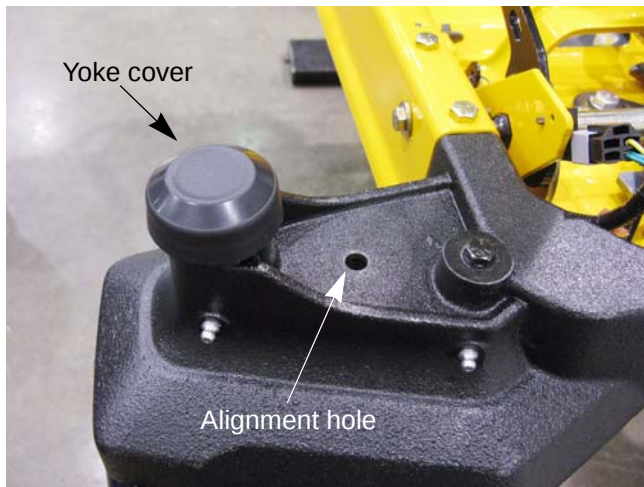

Figure 5.13
3. Pry the yoke cover off. See Figure 5.13.